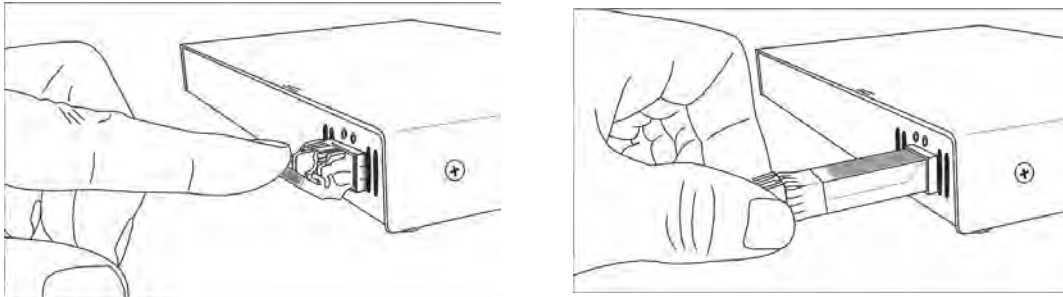

FIG. 68 Flip transceiver latch out and down, pull transceiver free from socket
2. Using the tip of the index finger, swing the transceiver latch out and down. Note that the orientation of DXLink Fiber Boards varies from system to system (FIG. 68):